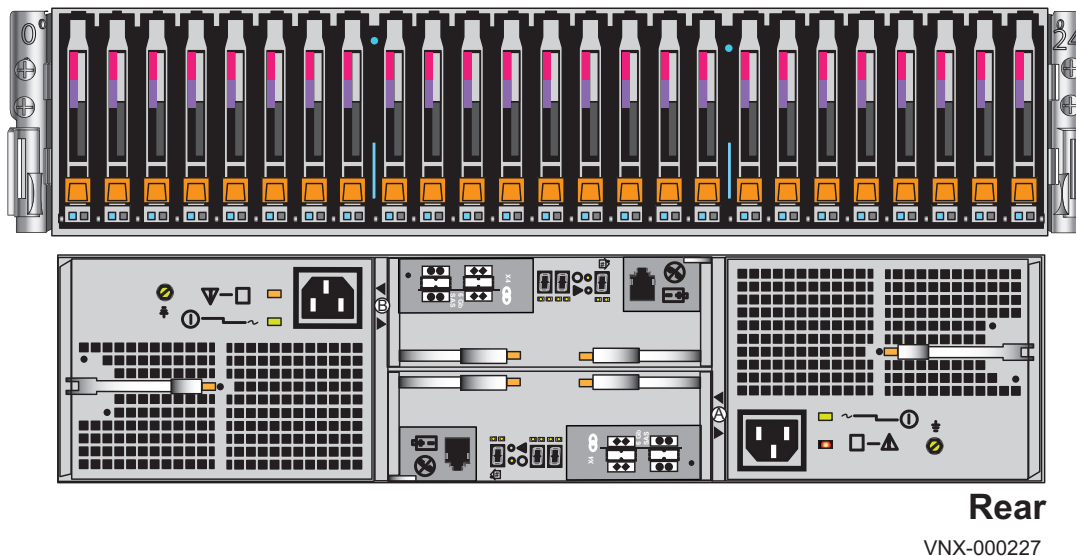

Figure 14 2U, 25 2.5” drive DAE
- ◆ 2U, 25 2.5” drive DAE shown in Figure 14.